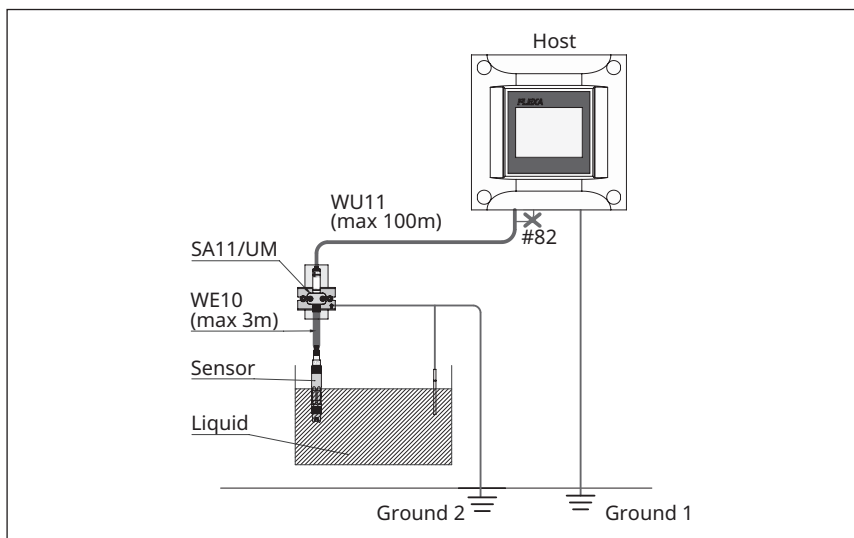

Figure 5.5: Typical installation example to prevent ground loop
However, in case that there is different potential between Ground at HOST side and Ground which the housing of the SA11 is connected, figure 5.5 shows the example of the installation. To prevent ground loop by this different potentials it is necessary to disconnect one of the ground references. This can be done at the HOST side by disconnecting the wire #82 of the WU11 type S cable. Please connect #82 to NC terminal on the SENCOM SA module when SA11 is connected to FLXA402. Please be sure to insulate contact pin of #82 wire from terminals and metal housing, when SA11 is connected to other host. The SA11 device must then be installed using the optional pipe and wall mounting hardware (UM) with a ground wire connected in between the ground terminal of the mounting bracket and the ground reference of the process.
Remark: For the installation shown in Figure 5.5, in case the ground references at the HOST side (Ground 1) and process side (Ground 2) have no potential difference the shield wire of the WU11 type -S cable (wire #82) can stay connected to the (pre-defined) ground terminal at the HOST.